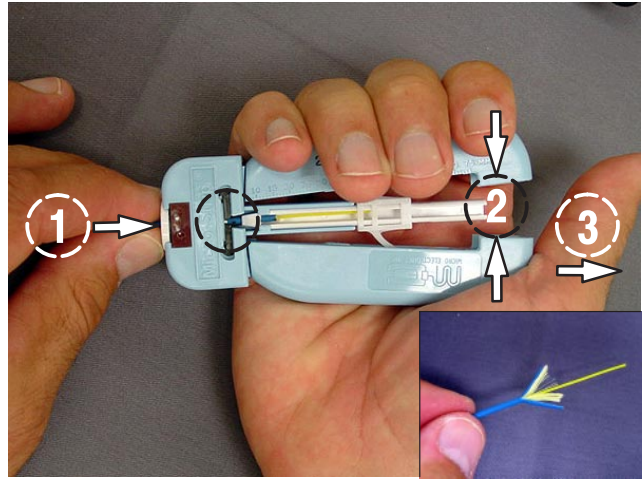

Figure 66
10. Slide cable into slitting tool (see No. 1) until the second mark is lined up with the blades and squeeze handles (see No. 2) and pull to slit the jacket (see No. 3) as shown in Figure 66. Repeat for second end.